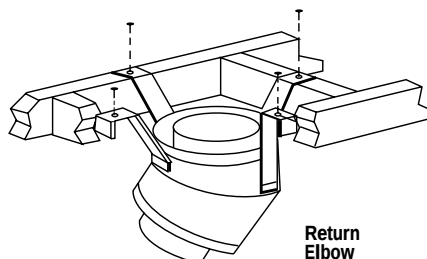

Figure 42
Step 5. Secure support straps to framing members by nailing under tension in sheer (**Figure 42**).